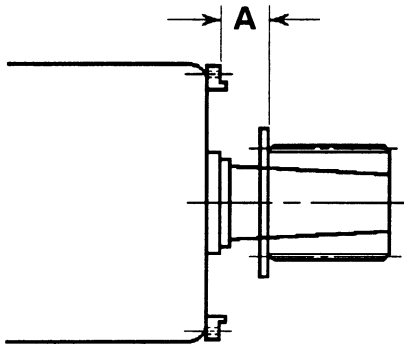

Fig. 3
- 2.1.1 Inspect the mounting lugs on the motor for broken welds or improper location. All mounting lugs should be flat and within a common perpendicular plane to the motor shaft. With the motor shaft centered between its axial limits, the axial dimension "A" between the motor side of the gear (22) and the mounting lugs should measure 3.09" for 822 frame motors, and 1.96" for 824 frame motors. See Figure 3. Shims can be added if necessary. Correct as required.